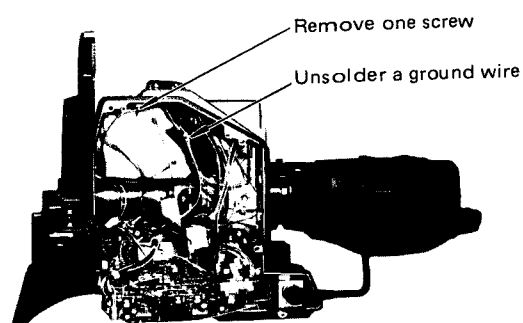

Fig. 3-1-5
- o Remove one screw which hold the ground wire. (Fig. 3-1-5)
- o Unsolder the ground wire. (Fig. 3-1-5)